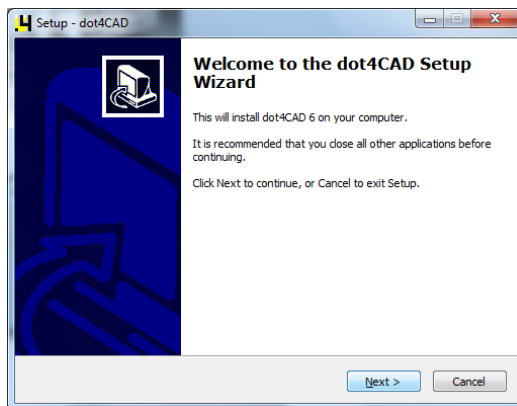

Fig. 38 – dot4CAD Setup Wizard
- You will see the welcome screen of dot4CAD's installation wizard (Fig. 38 on the next page);
- Click **Next >** to begin installation or **Cancel** to abort it (Fig. 38);